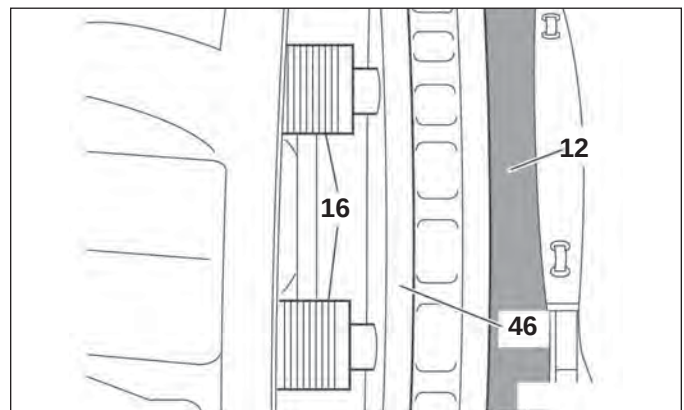

FIGURE 50 - USE OF A NEW BRAKE PAD AS A SPACER
5.5.10 Inspect the threaded tubes (16). See Figures 50 and 51. Extend the tubes, but by less than 1.75 in. (44.5 mm), by turning the shear adapter (61) clockwise. Inspect the threads for rust, corrosion, or damage etc. If there is evidence of damage to the threads; significant rust; or corrosion, the caliper/carrier assembly must be replaced.
If the technician is working with the caliper on the vehicle, the technician may place a new brake pad (12) into the outboard gap to help avoid the loss of thread engagement of the threaded tubes. See Figure 50.